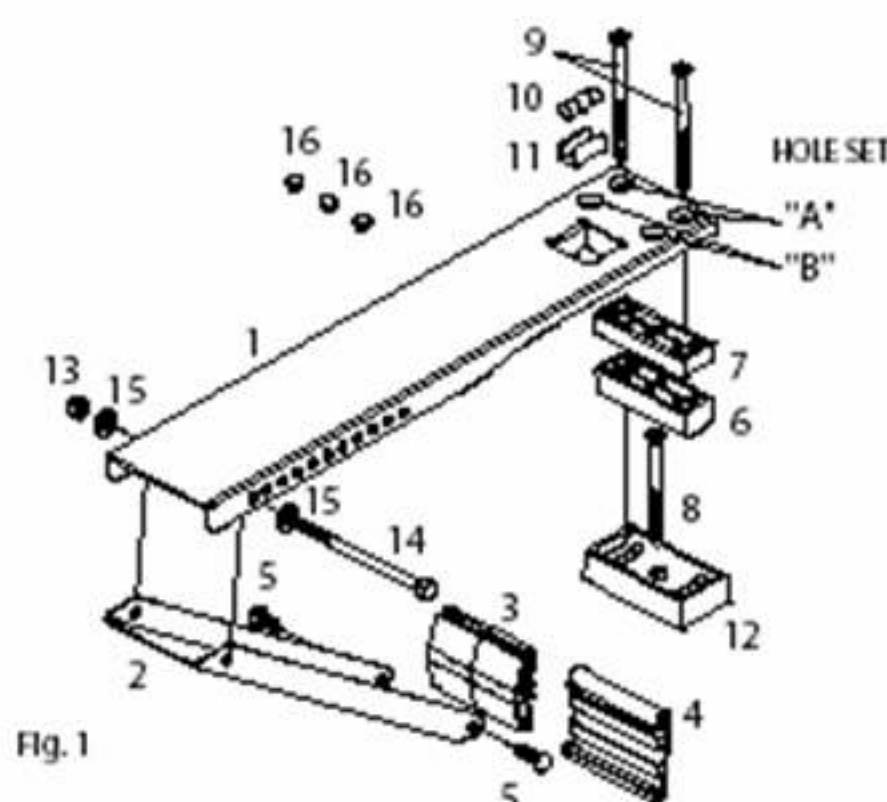

Fig. 1
2) Parts Confirmation: some pieces are preassembled; match parts against Figure 1 and the CHECKLIST; contact Customer Service (800) 797-3709 for replacement of any missing items or further installation instructions.